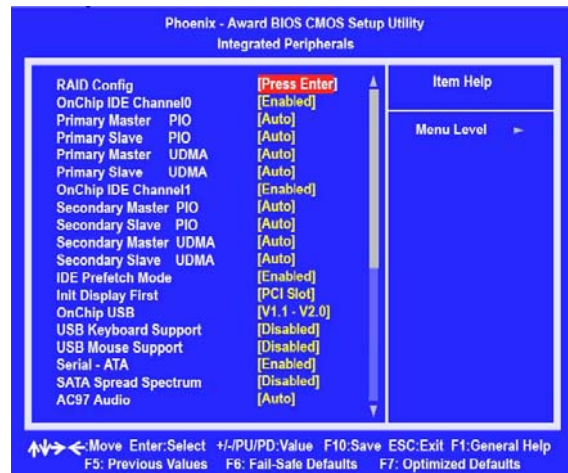

Figure 2.2 Integrated Peripherals Window
- Use the arrow keys to select the RAID Config (see Figure 2.2), then press Enter. The RAID Config window appears.